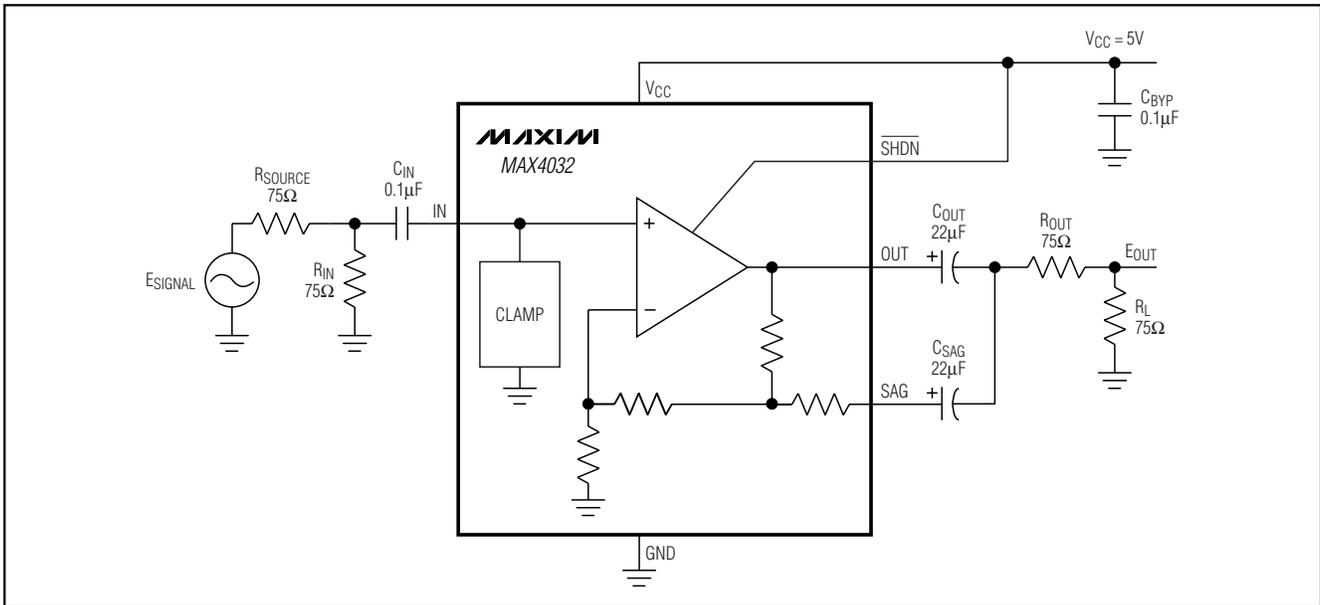

Figure 3. AC-Coupling the MAX4032
- 2) Two capacitors and 150Ω are connected between OUT, SAG, and ground (see Figure 3).
allel with the normal output, as shown in Figure 3. This allows the use of two smaller capacitors ( $C_{OUT}$  and  $C_{SAG}$ ), typically 22μF, substantially reducing the size of the interface caps and their cost while retaining the low-frequency response.
The MAX4032's output is configured to support AC-coupling with minimal capacitance. This is called "sag correction." It refers to the improved bandwidth achieved by using two smaller capacitors to replace a single large capacitor shown in Figure 3.